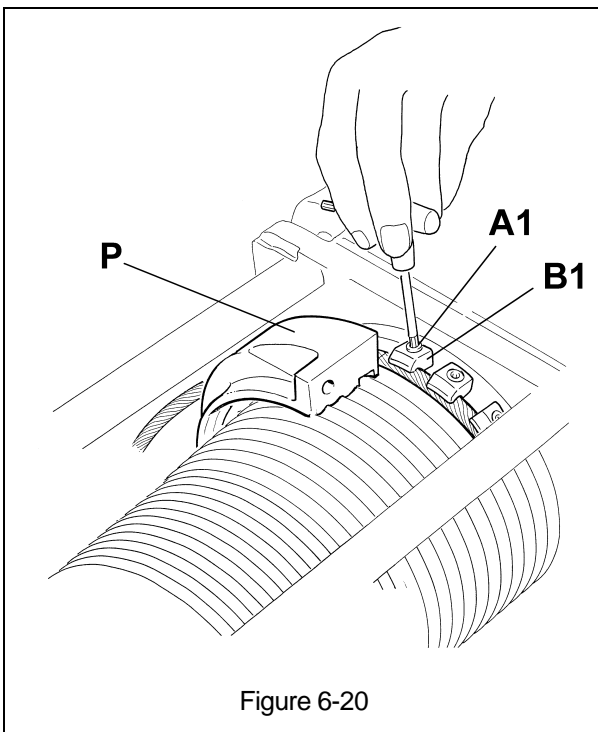
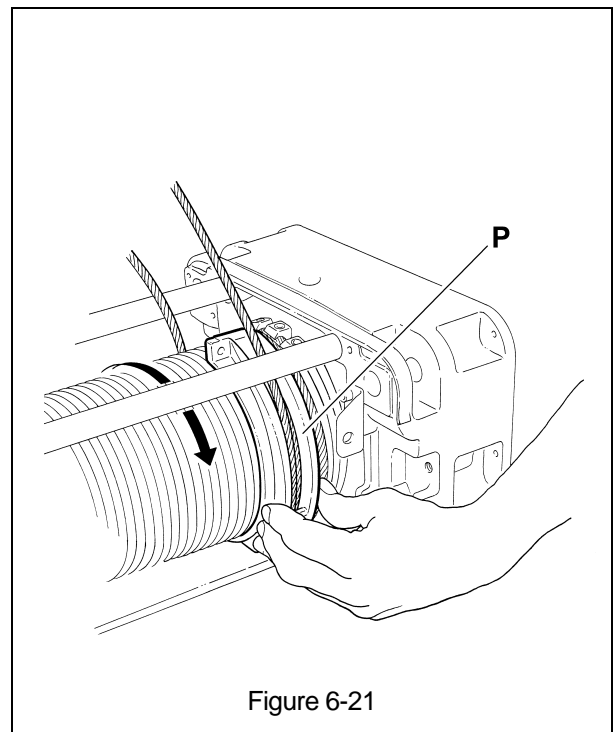

Figure 6-20
Figure 6-21
14) Loosen the Screws (A1) of the Wire Rope Clamps (B1) and take out the Wire Rope and Ring Half (P) (see Figure 6-20). For 4/1 Ultra-Low headroom versions it is necessary to rotate the Ring Half (P) over the top of the drum to remove it from the hoist (see Figure 6-21).